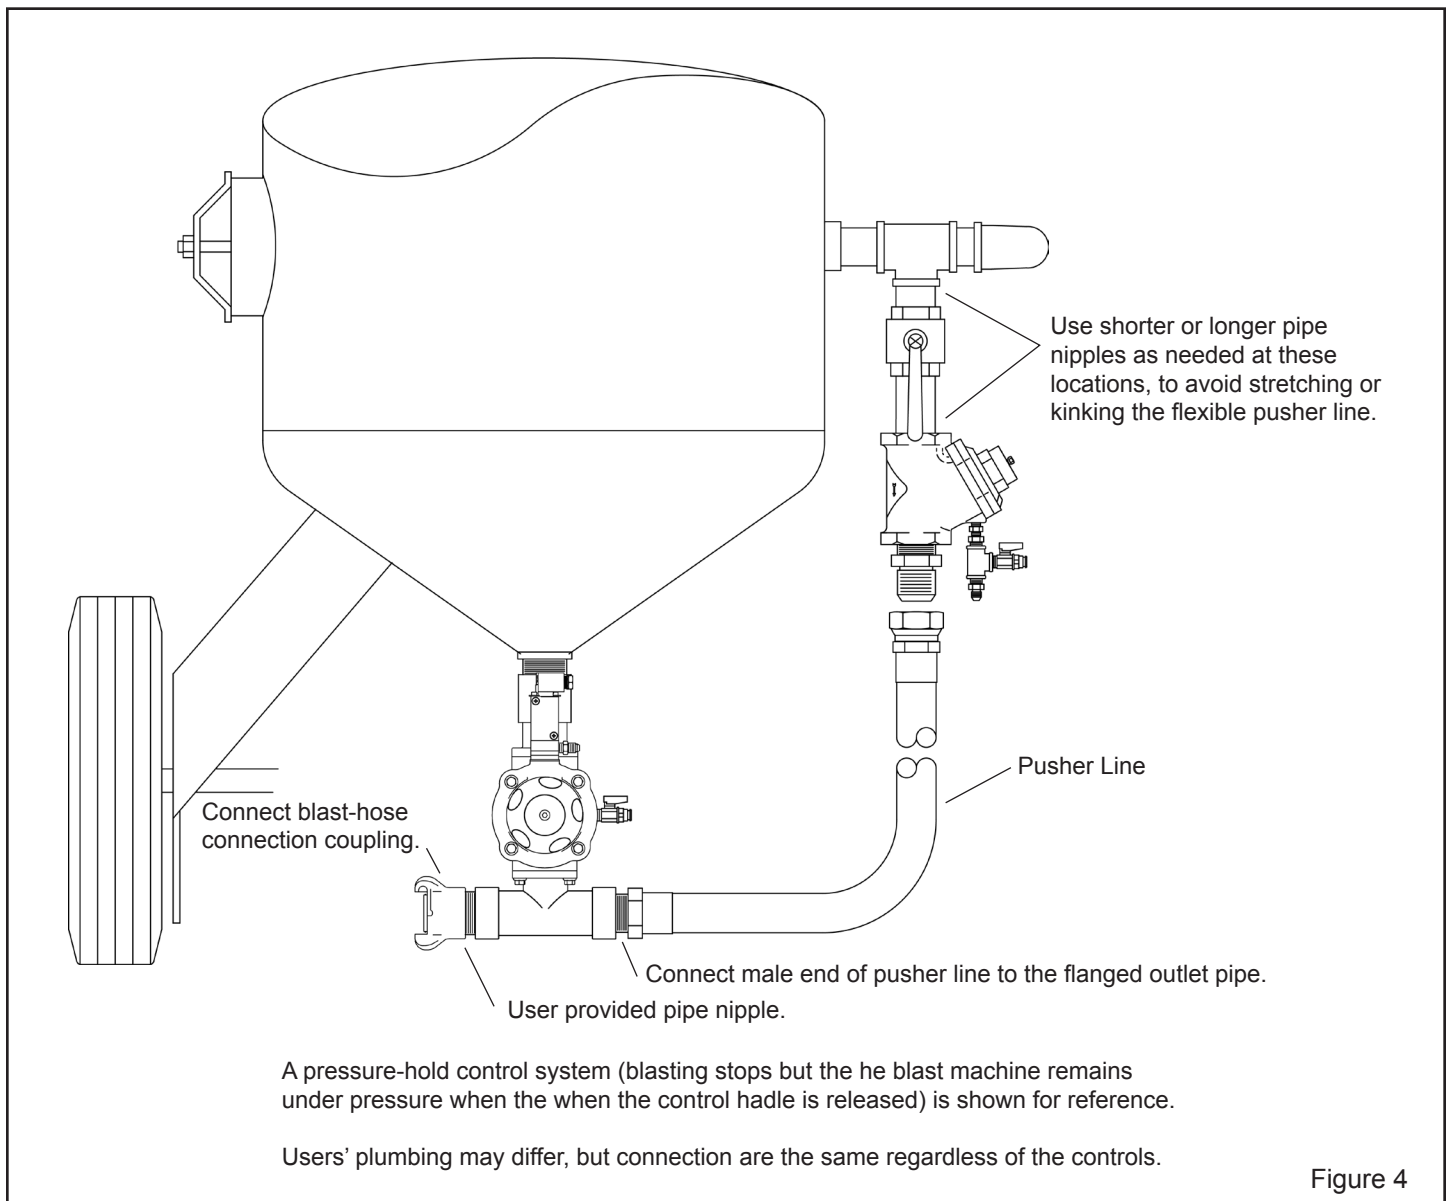

Figure 4
2.3 Connect Piping to the Metering Valve – Figure 4
1-1/2" outlet pipe) and connect the blast hose coupling to the outlet pipe, as shown in Figure 4.